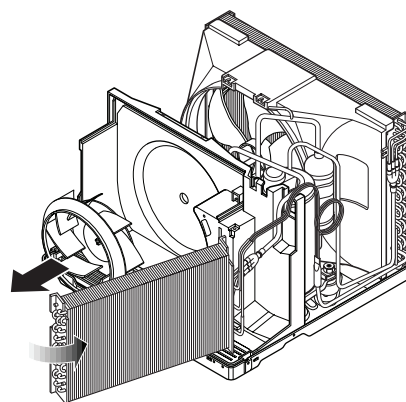

Figure 7
10. Pull out the hook of orifice by pushing the tabs and remove it. (See Figure 7)